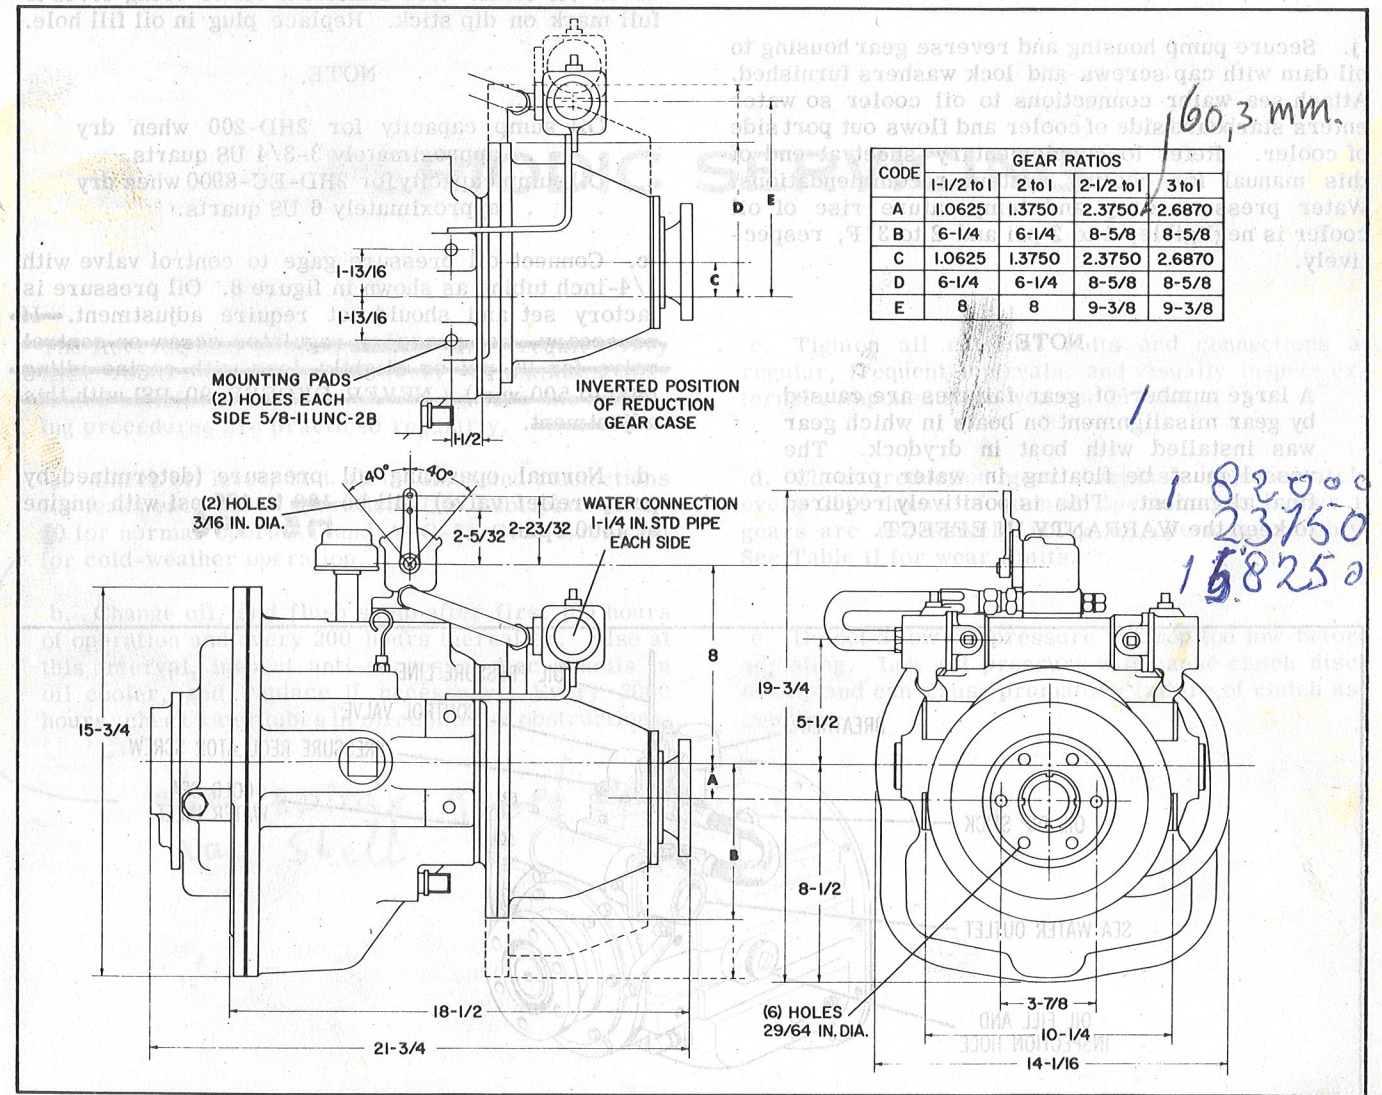

Figure 7. 2HD-EC-8900 Installation Dimensions
c. Secure driving stub shaft to drive flange with woodruff key. Coat face of drive flange with No. 1 Permatex and bolt to flywheel (see figure 7). Check driving flange and stub shaft for alignment. Total allowable misalignment both radially and axially is 0.007 inch.